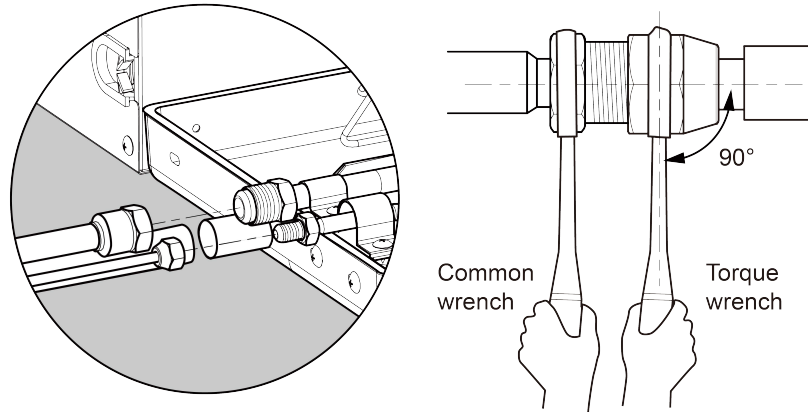

Fig.33
- (1) Conform to the following principles during piping connection: Connection pipeline should be as short as possible. The height difference between indoor and outdoor units should be as short as possible. Keep number of bends as little as possible. The radius of curvature should be as large as possible.
- (2) Weld the connection pipes between indoor and outdoor unit. Please strictly conform to the requirements for welding process. Rosin joints and pin holes are not allowable.
- (3) When laying the pipes, be careful not to deform them. The radius of bending parts should be more than 200mm (7-7/8 inch). The pipes cannot be repeatedly bent or stretched, otherwise the material will get harden. Do not bend or stretch the pipe over three times at the same position.
- (4) Please use a torque spanner to connect union nut on the indoor unit. See Fig.33.